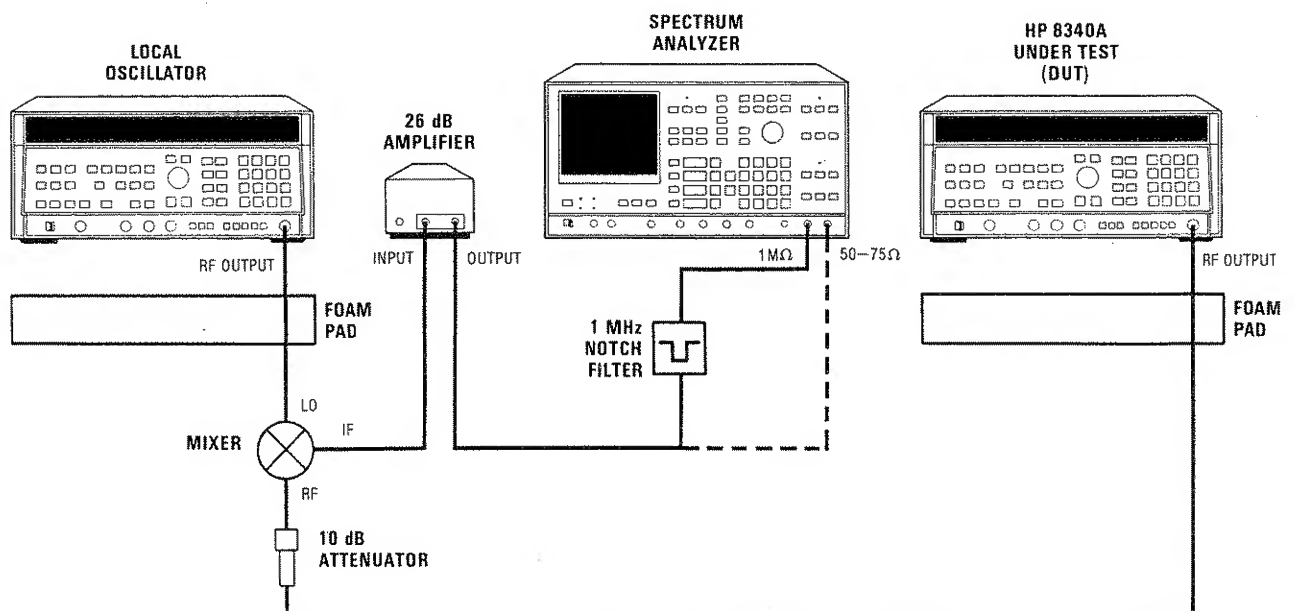

Figure 4-9. Single Sideband Phase Noise Test Setup
1. Connect equipment as shown in Figure 4-9 with the amplifier connected directly to the 3585A 50 Ohm input.
The foam pads shown in Figure 4-9 are required to isolate the DUT and LO from mechanical vibrations which could induce phase noise.
17. Connect 1 MHz Notch Filter as shown in Figure 4-9. Select 1 MOhm input impedance on the 3585A.
23. Connect equipment as shown in Figure 4-9 with the amplifier connected directly to the 3585A 50 Ohm input. Return 3585A to 50 Ohm input impedance.
32. Connect the equipment as shown in Figure 4-9 with the 1 MHz Notch Filter connected. Select the 1 MOhm input impedance on the 3585A.